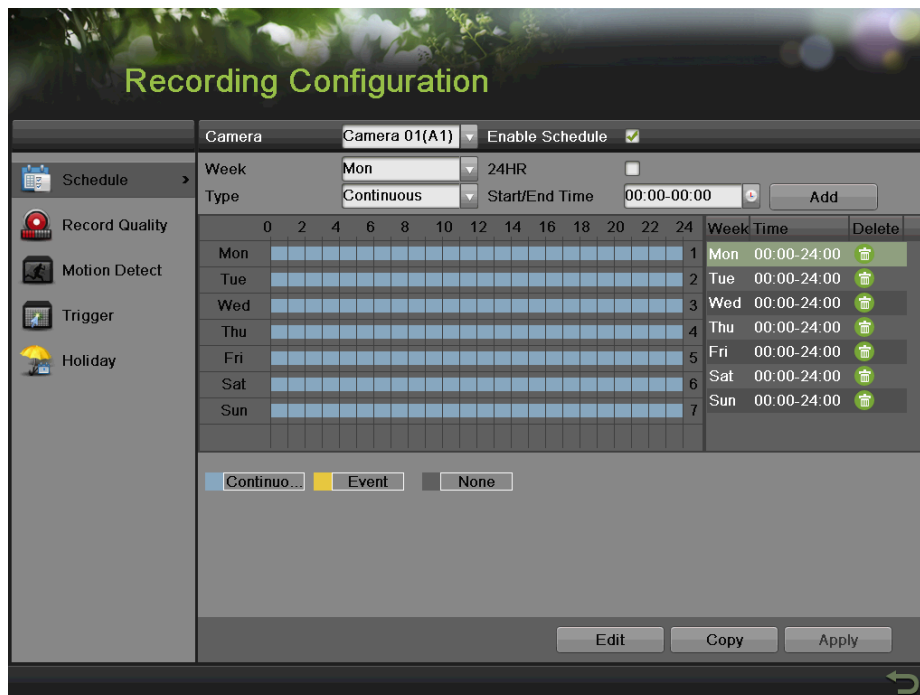

Figure 65 Record Schedule Configuration Menu
1. Enter the Schedule menu, shown in Figure 65 by going to Menu > Recording Configuration > Schedule.